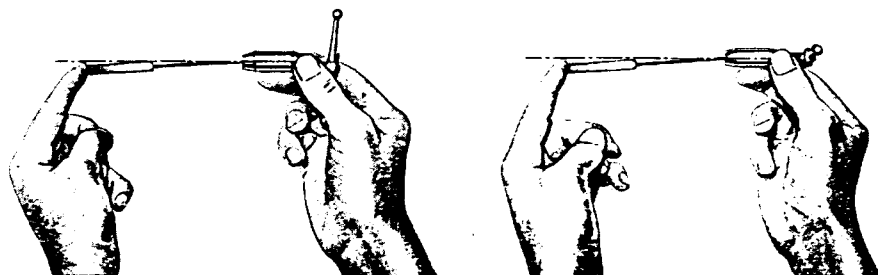

FIG. 30.
**NOTE :** There should be sufficient freedom in the key rod joint of the oscillating control valve for the end of the square guide to drop below the centre line of the valve at all angles (see Fig. 30). This allows the control valve to align itself in its bush.